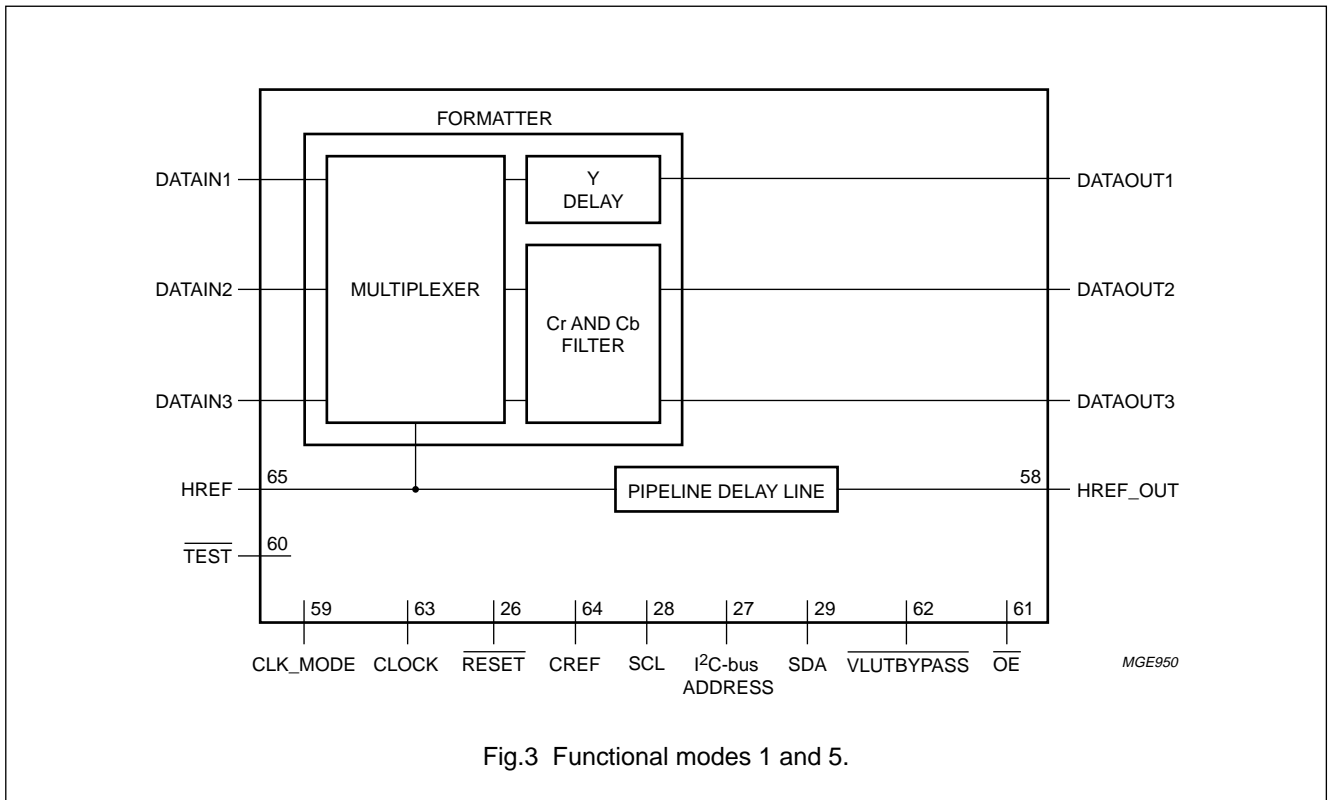

Fig.3 Functional modes 1 and 5.
1. Figures 3 to 10 illustrate the functional modes.